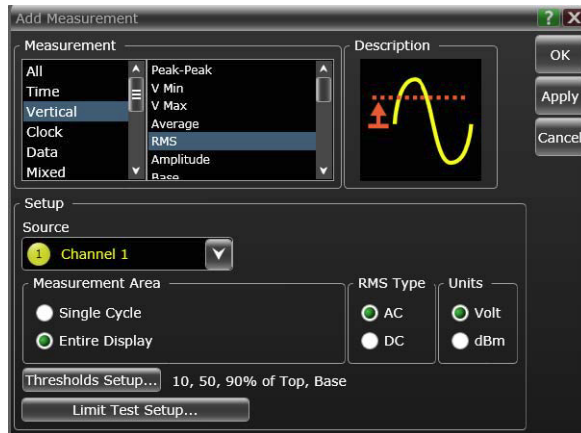

Figure 13 Enter Measurement Info window
- 9 In the Add Measurement dialog box, select the Vertical RMS measurement as shown in **Figure 13** on page 31.